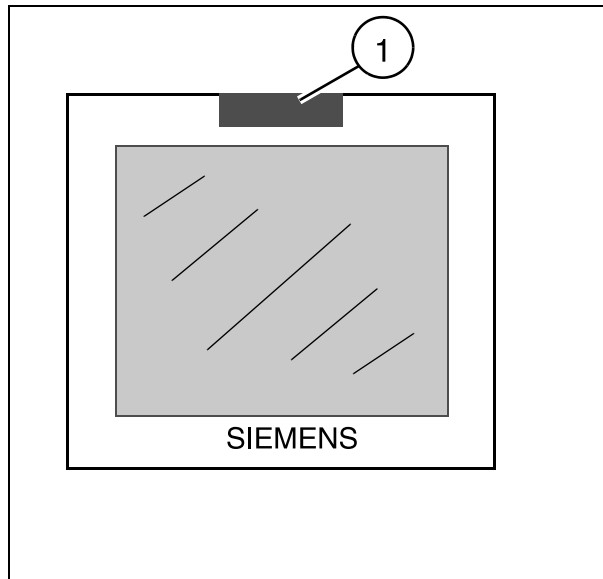

Fig. 58: Adhesive label
- Attach the "MODULARIS Vario" label included in the shipment to the monitor of the ultrasound unit (1/ Fig. 58 / p. 55) (this label is used to identify which ultrasound unit is functioning with the MODULARIS Vario).
- Attach the "MODULARIS Vario" label included in the shipment to the monitor of the ultrasound unit (1/Fig. 58 / p. 55) (this label is used to identify which ultrasound unit is functioning with the MODULARIS Vario).